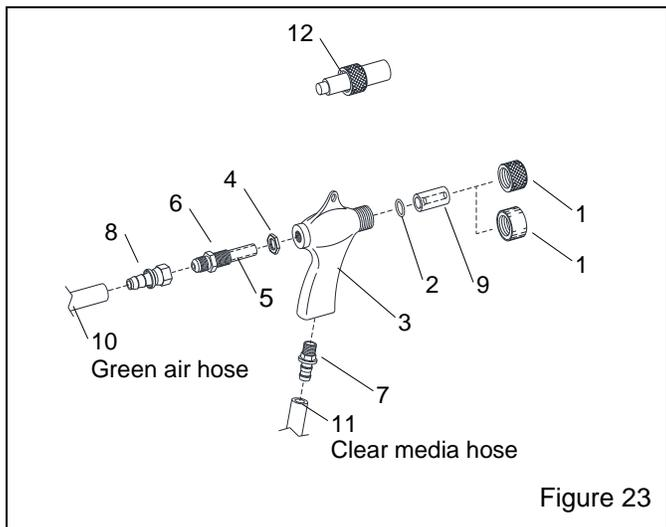

Figure 23
**7.9.7** Make sure the air hose and media hose are not reversed on the BNP gun; the green air hose attaches to the back of the gun and the clear media hose attaches to the bottom of the gun's grip. Refer to Page 22, Figure 23.
8.2 BNP® Gun and Hose Assembly – Figure 23